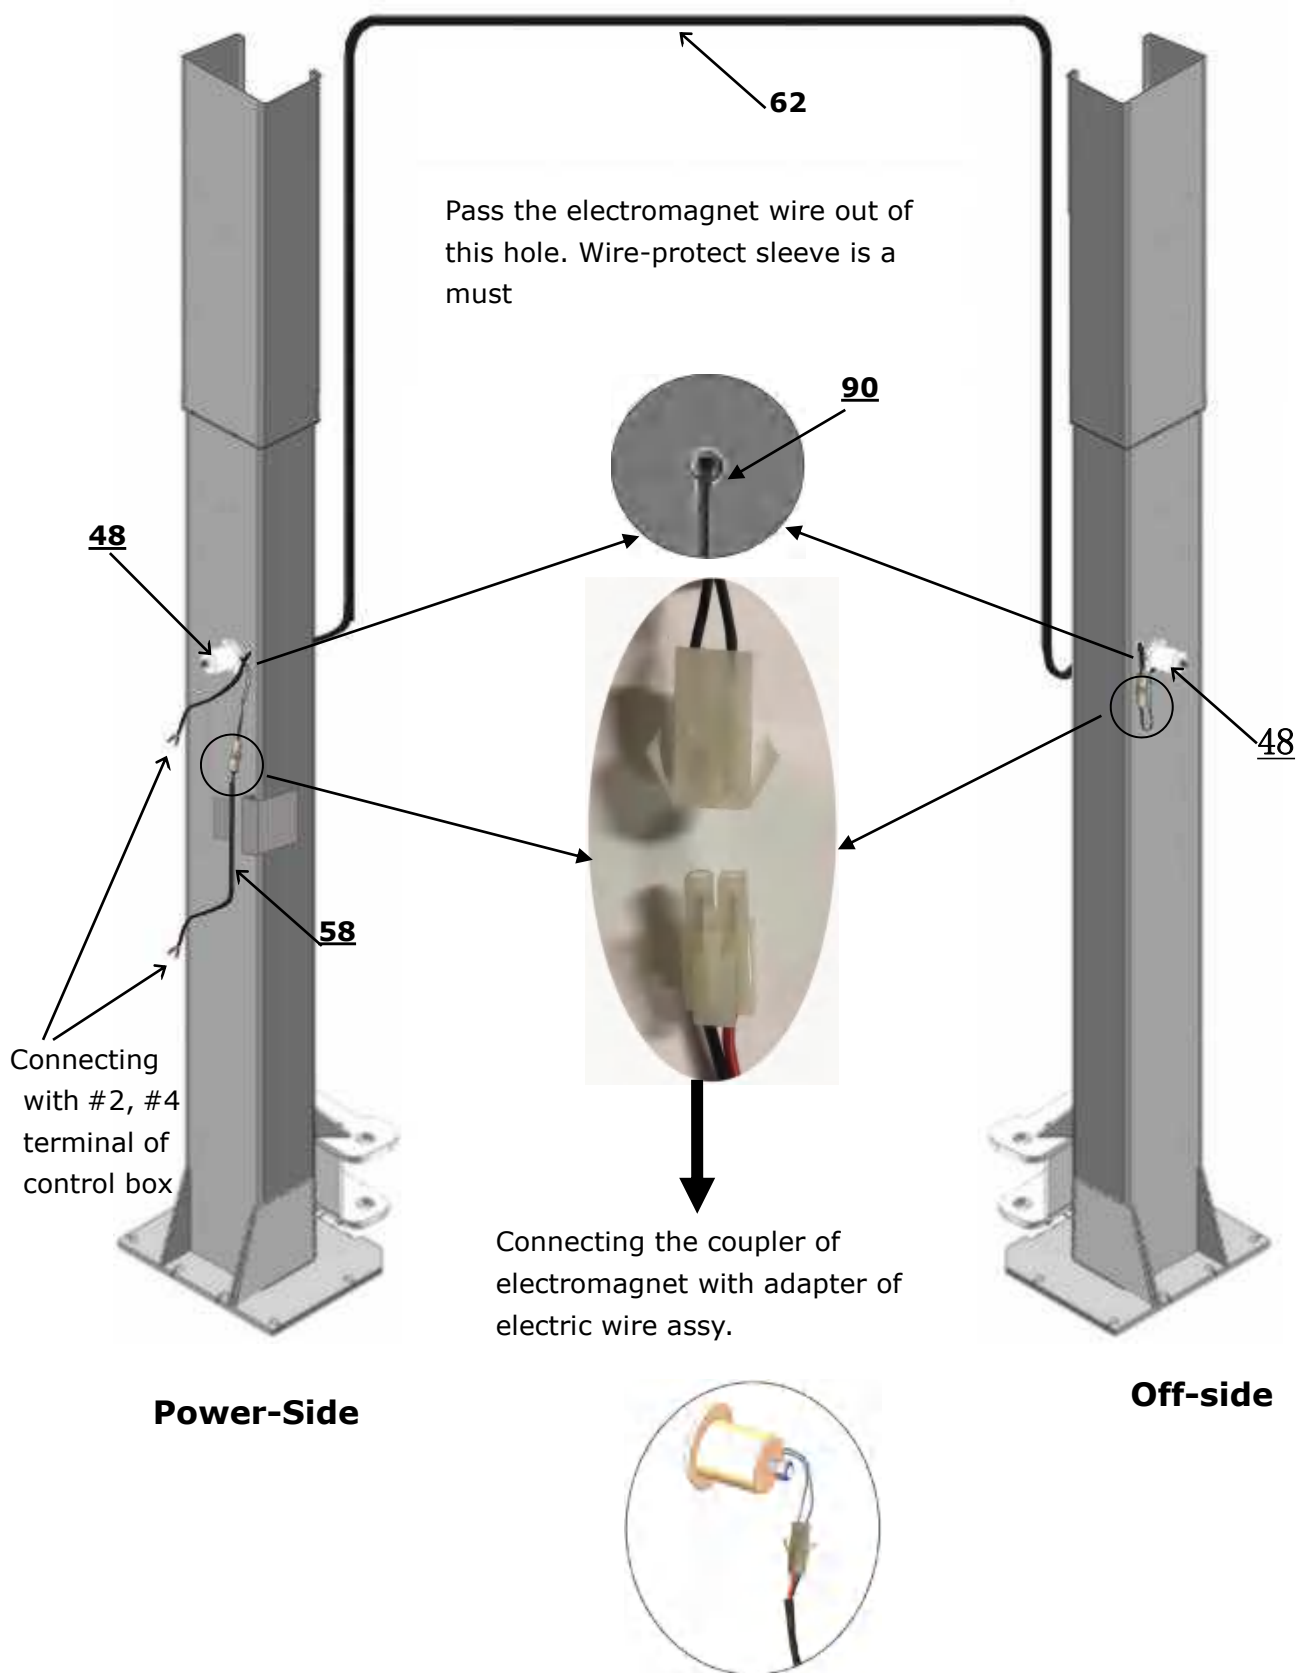

Fig.17
2. Install electromagnet, wire assy. (**see Fig.17**)